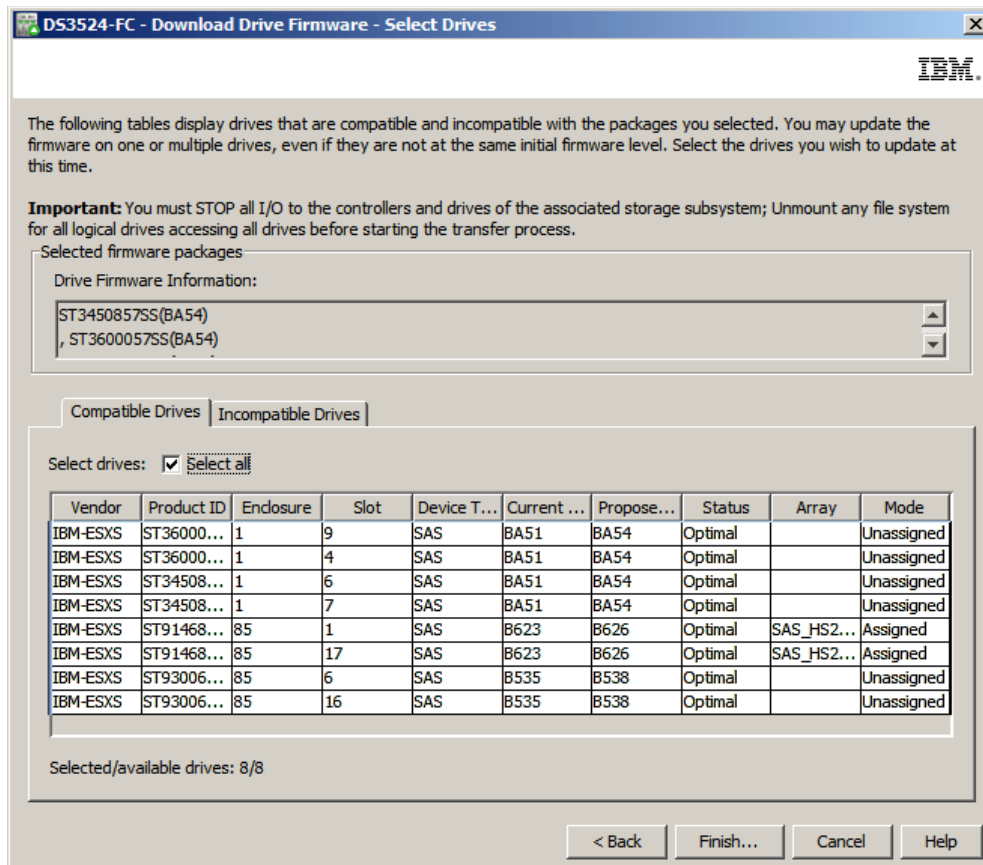

Figure 14-86 Compatible drives which can be updated
5. Now you have to select the drives in the subsystem you want to update (Figure 14-86 on page 384). You only see the compatible drives in this window. Check **Select all** to update all compatible drives.